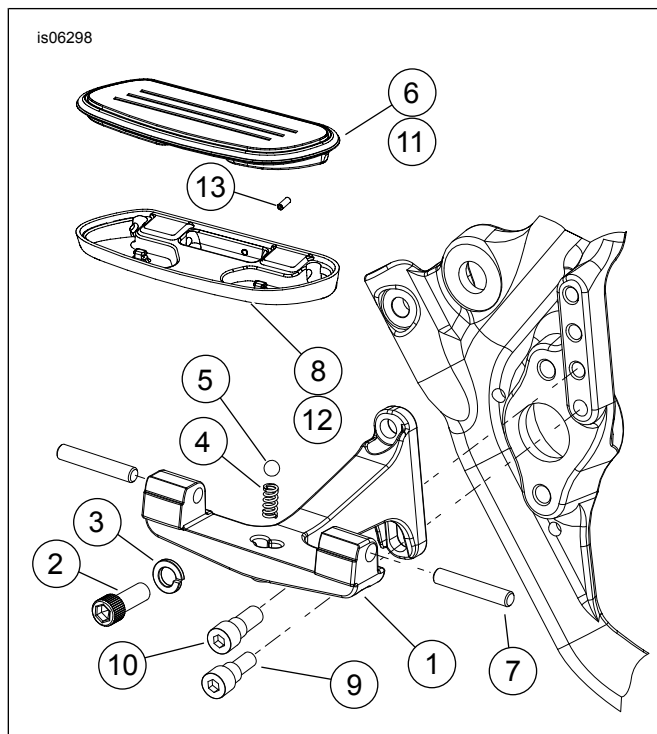

Figure 2. Service Parts: Streamliner Passenger Footboard
See Figure 2 and Table 1.
1. See Figure 2. Insert shoulder bolt (9) or (10) through slot in footboard bracket (1). Tighten.
- a. **2010 and Later Models:** Thread the 5/16 inch shoulder bolt (9) into the **lowest** hole in the rear swingarm bracket of the frame.
- b. **2009 and Earlier Models:** Thread the 3/8 inch shoulder bolt (10) into the **second lowest** hole in the rear swingarm bracket of the frame.
2. At the desired height, install the upper screw (2) and lockwasher (3) through footboard bracket (1). Tighten.